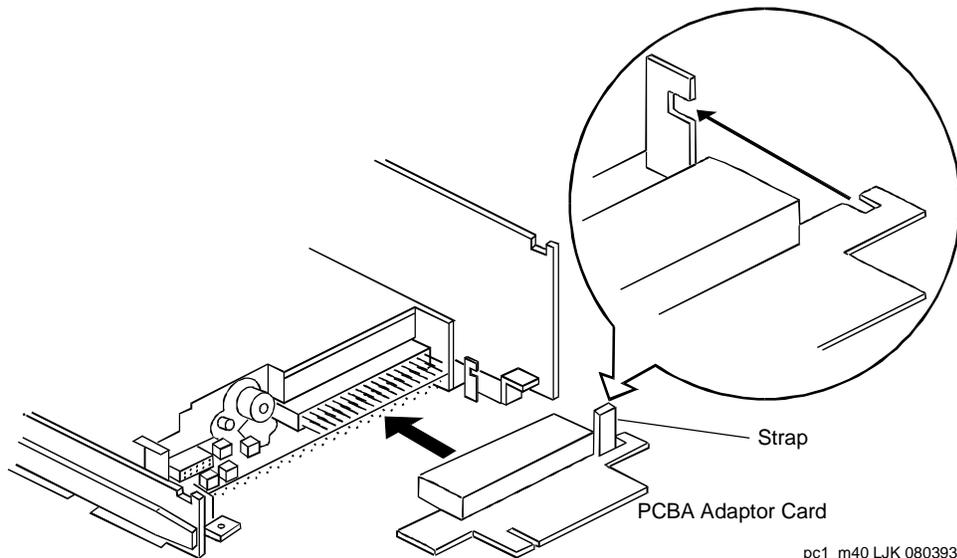

Figure 7-5. Floppy Disk Drive Unit PCBA 5-Inch Adapter Card
- Place the floppy disk drive assembly on an ESD-protected surface and carefully remove the PCBA 5-inch adapter card (Figure 7-5).
6. Attach the PCBA adapter card, being careful to align the tabs shown in Figure 7-5.